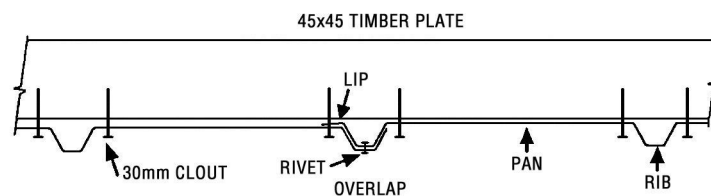

fig. 1
When fitting Gable End Sheets ensure they overlap correctly (*fig 1*).
Step 2: Back Wall: Position the first Wall Sheet with the LIP on the right hand side. Ensuring the LIP is flush with the side of the Studs and the top of the Wall Sheet is flush with the top of the Top Plate, tack in place. Position the next Wall Sheet with the LIP on the right hand side. Overlap as shown in (fig 1). Ensuring Wall Sheet is flush with top of Top Plate, tack in place. Repeat with remaining sheet.